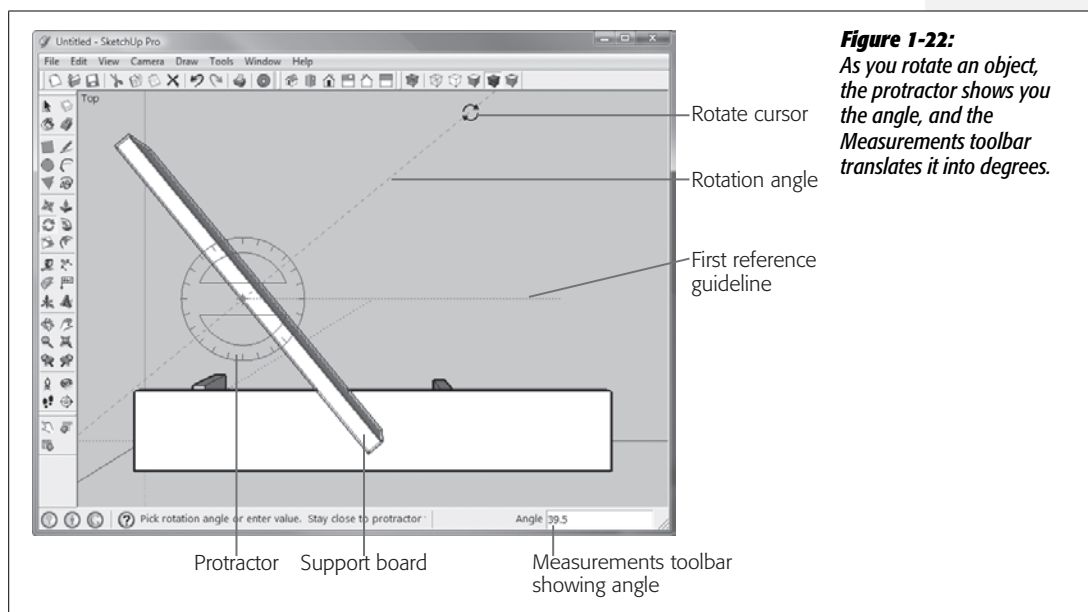

Figure 1-22:
5. Position the center of the protractor over the midpoint of the left edge of the bench support, as shown in Figure 1-22.